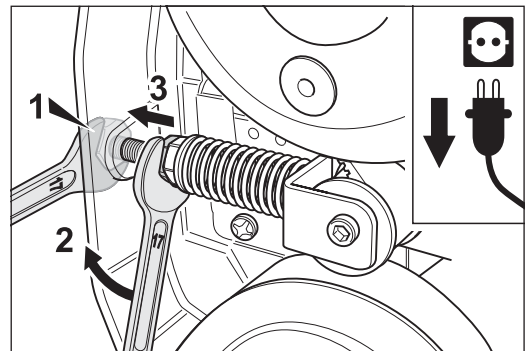

Fig. 76 Turn the counter nut back to the casing wall.
- 4 Loosen counter nut of tooth belt tensioner (using wrench size 17 mm) and turn the nut all the way back to casing wall (fig. 76).